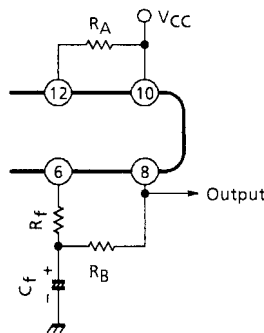

Figure 3
- (2) When you use this IC at the supply voltage of more than 6 V , it is better to insert the resistance R_B for compensating output DC voltage. (Figure 3)